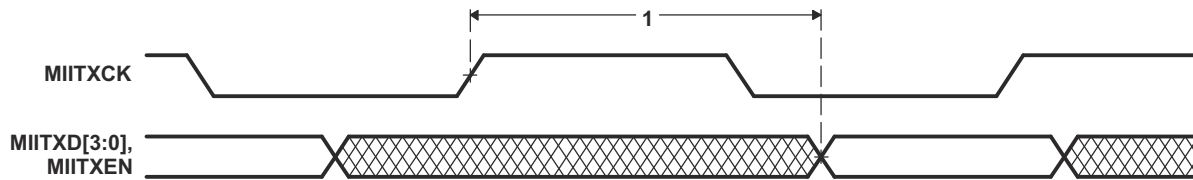

图 7-38. 100/10Mb/s MII Transmit Timing
7.11.6.3.5 Switching Characteristics Over Recommended Operating Conditions (Unless Otherwise Noted) for EMAC MII Transmit (see 图 7-38)